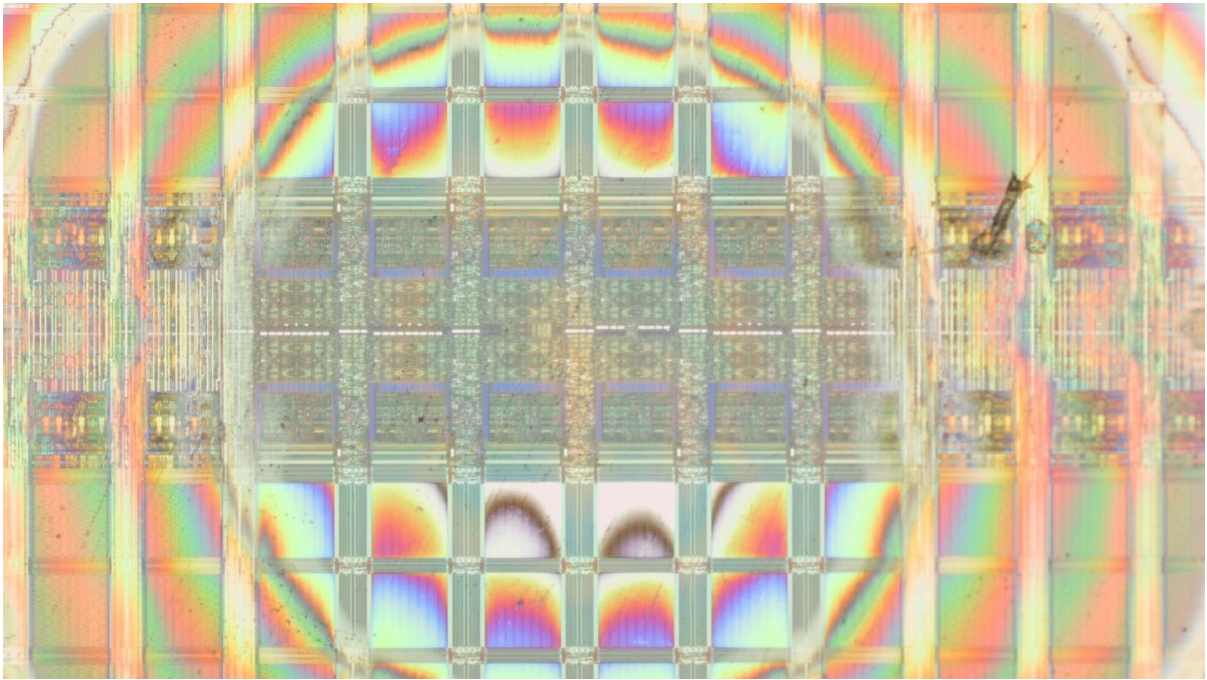

Figure 12a: Optical Inspection Image Shows Final Dimple in the ROI
- 19. Upon reaching the ROI (*Figure 12a and b*), instead of simply rinsing the surface with water, using a gentle cleanser such as Micro 90 with a gloved finger or very soft brush can help to remove very fine particles from the surface. Make sure to rinse the soap away for at least 30 seconds with running water. Dry the sample as normal.